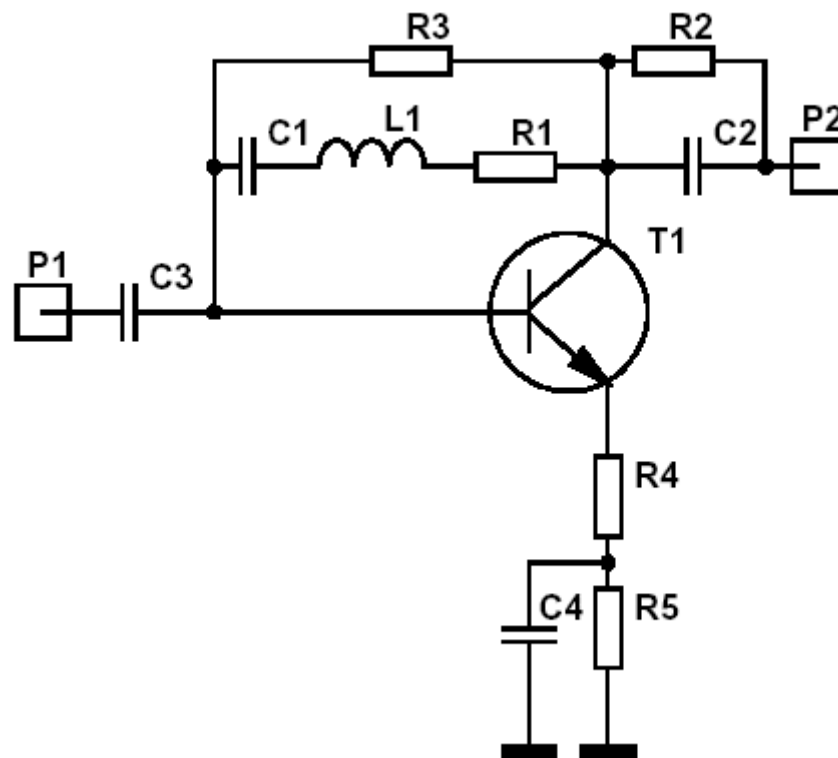

Figure 1 Schematic circuit of the broadband amplifier
The common-emitter configuration of the amplifier is presented in figure 1. The resistors R2, R3 and R5 determine the work point of the transistor (R4 resistance is negligibly small comparing to R5). R1, C1 and L1, as well as R4 (negative feedback components) determine the frequency characteristics of the amplifier. C2 influences the input matching characteristics, while C4 is large blocking capacitance.
The main component of the circuit from fig. 1 is the transistor. It can be placed in the schematic in the same way as the basic components. However, this method requires many parameters to be defined. Another method is to use active components models from the component library. The BFQ 67 transistor model can be accessed through *Parts*→*DeviceLibrary*. The *Device Library Section* dialog box will pop up. Define the manufacturer (for BFQ 67 it is Philips company) and the type of the component. For bipolar transistors linear and nonlinear models are available.
The *Schematic Connectors* menu allows you to get and place input and output connections to your schematic. Choose *Parts*→*Lumped*→*Schematic Connectors*→*Microwave Port*, place it in the design area, and enter the port name (p1, p2, etc.) in the *Instance Name* dialog box. In case of the circuit from fig. 1 the input port should be marked with p1, and output port – with p2. The ports have 50Ω resistance by default.
In case of the circuit in fig. 1, R1, L1, C2 and R2 components should be optimized. We assume that C1, C3 and C4 are all equal to 2.2nF, what simplifies the optimization process. The goal of the optimization is to achieve good input and output matching characteristics, and possibly flat gain characteristics in frequency range 250MHz-0.5GHz.
1. Draw the schematic circuit of the amplifier (fig. 1) for constant voltage and current components. Calculate the values of the resistance responsible for the work point of the transistor. Estimate the values of the components of the amplifier with the linear transistor model. **(Prepare before the classes.)**